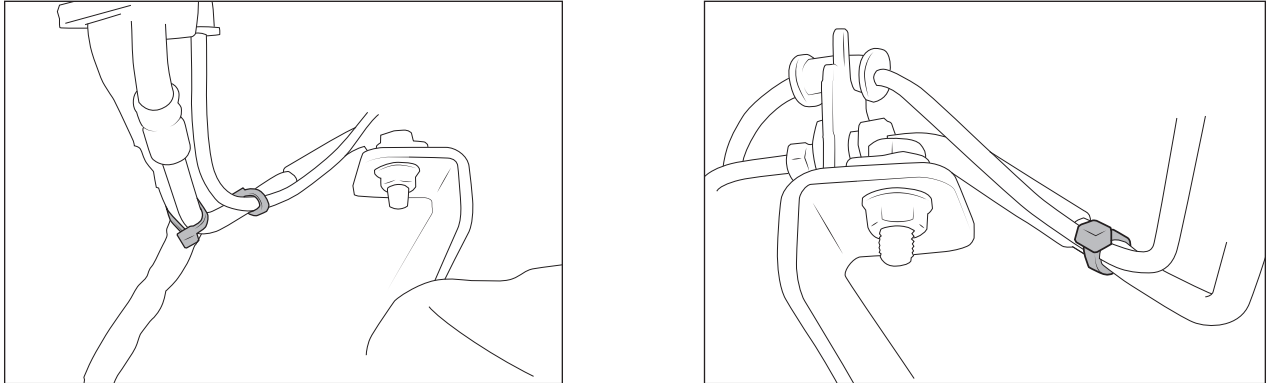

Figure 35
17. Reattach the central axle disconnect and wheel speed sensor wire with zip ties as shown (fig. 35).